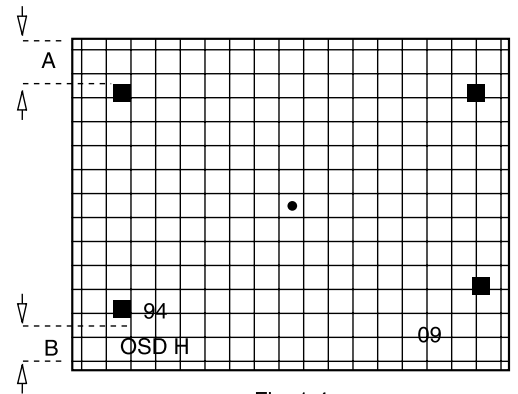

Fig. 1-4
- Using the volume keys on the jig remote controller, adjust A and B on both top and bottom shown in the OSD screen to be equidistant from the screen edges. A = B (Fig. 1-4)